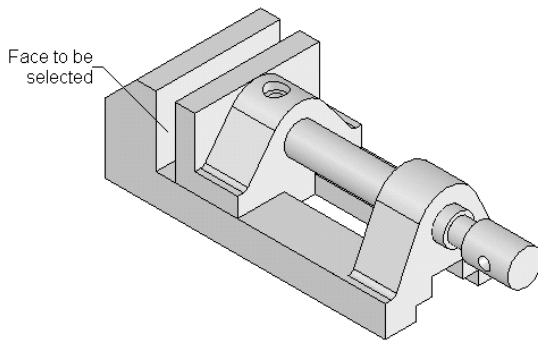

Figure 12-67 Face to be selected
- After analyzing the assembly, apply the required mates to constrain all degrees of freedom, refer to Figures 12-67 and 12-68.
12. Select the two faces, one of the Vice Body and the other of the Jaw Screw, as shown in Figures 12-67 and 12-68.